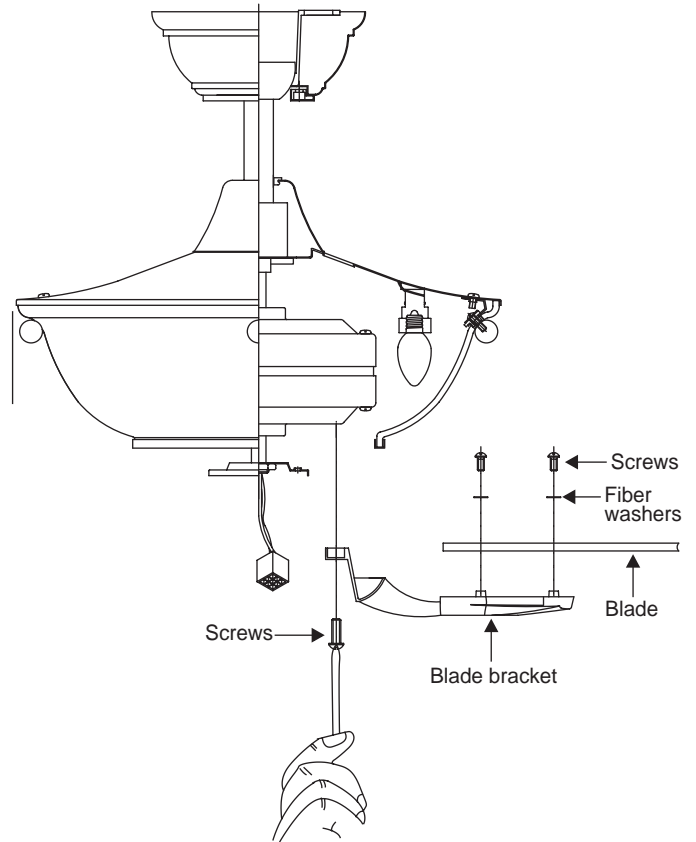

Figure 14
**Step 1** Attach the blade to the blade bracket using the screws and fiber washers as shown in Figure 14. Start screw into bracket. Repeat for the two remaining screws.
**Step 3** Fasten blade assembly to motor using the screws supplied. (Fig. 14)